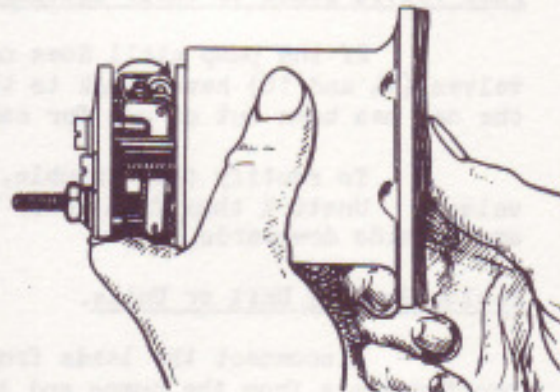

FIG. 4. SHOWING METHOD OF HOLDING THE MAGNET HOUSING WHILE ADJUSTING THE DIAPHRAGM.
Place the large end of the spring (32) in the magnet housing. After making sure that the impact washer (34) is in position in the recess in the armature, slide the bronze rod (31) through the hole in the magnet core (28) and screw the threaded end into the trunnion (27) which is attached to the inner rocker (26). Screw right up, holding the magnet housing in the left hand, flange uppermost, then replace the eleven brass rollers by lifting the edge of the diaphragm to allow the rollers to be inserted into the annular recess in the armature. Now, holding the magnet housing as shown in Fig. 4, unscrew the armature one sixth of a turn (one flange hole) at a time and simultaneously press it in and out, firmly but slowly, until a point is reached at which the outer rocker will 'toggle over' (when the diaphragm is pressed in), then unscrew it a further two-thirds of a turn (4 holes). The setting is now correct. Re-tighten the spring blade screw.